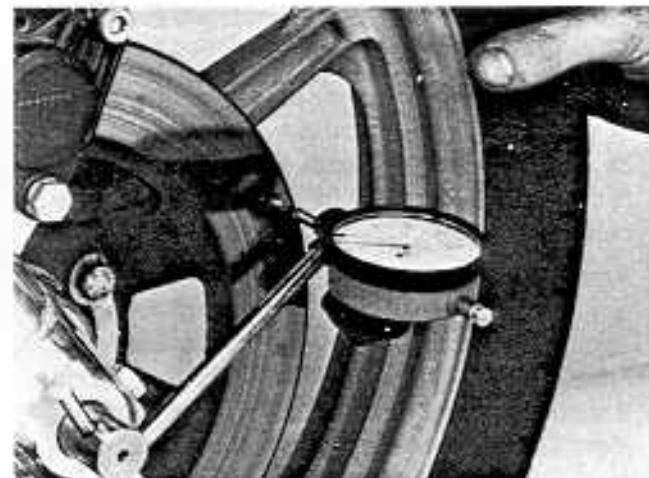

Fig. 195
- Check that the disc working surface and the flange (which mates with the wheel hub) are dead parallel. This can be checked with a surface plate and a dial gauge fitted on a suitable stand (see figure 195). Max. parallelism error allowed is: 0.05 mm. If the flatness or parallelism error exceeds specified figures, the disc must be renewed.